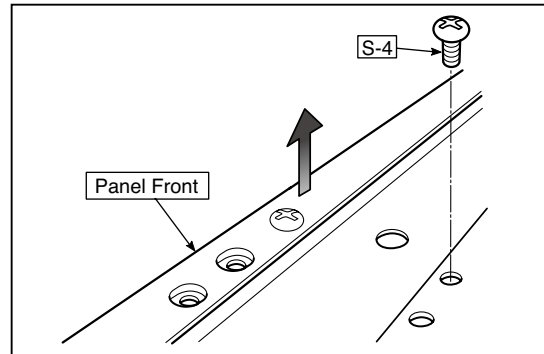

Fig.22
9) Remove the Panel Upper. (See Fig. 22)
1. Remove the "S-4" screw shown in the figure 22 and then remove the Panel Front.